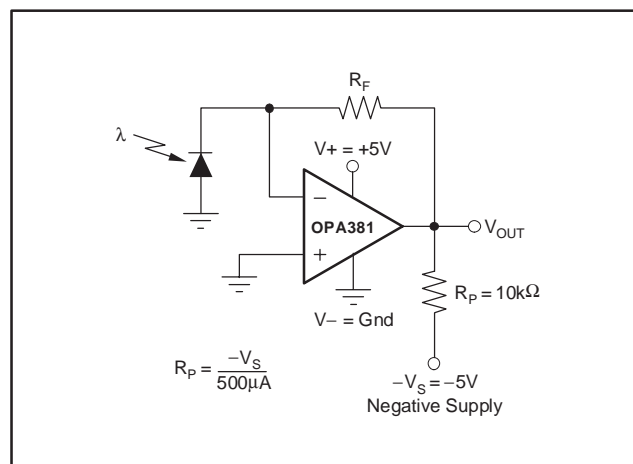

Figure 3. Amplifier with Pull-Down Resistor to Achieve $V_{OUT} = 0V$
- (1) High temperature operating life characterization of zero-drift op amps applying the techniques used in the OPA381 have repeatedly demonstrated randomly distributed variation approximately equal to measurement repeatability of $1\mu V$. This consistency gives confidence in the stability and repeatability of these zero-drift techniques.
- (2) Tested with output connected only to R_P , a pulldown resistor connected between V_{OUT} and $-5V$, as shown in Figure 3. See also **Applications** section, *Achieving Output Swing to Negative Rail*.
- (3) Transimpedance frequency of 250kHz.
- (4) Time required to return to linear operation.
- (5) From positive rail.
The OPA381 performance results from an internal auto-zero amplifier combined with a high-speed amplifier. The OPA381 has been designed with circuitry to improve overload recovery and settling time over that achieved by a traditional composite approach. It has been specifically designed and characterized to accommodate circuit options to allow 0V output operation (see Figure 3).
The output of the OPA381 can be made to swing to 0V, or slightly below, on a single-supply power source. This extended output swing requires the use of another resistor and an additional negative power supply. A pulldown resistor may be connected between the output and the negative supply to pull the output down to 0V; see Figure 3.